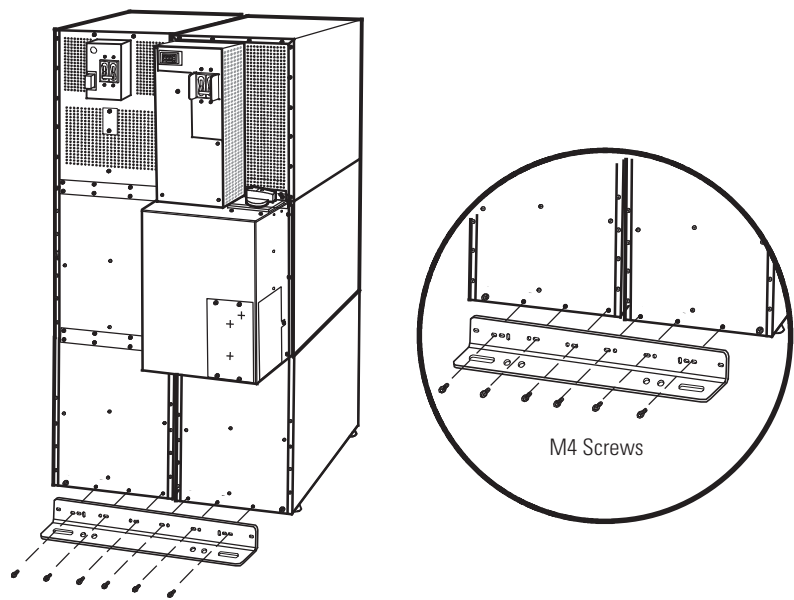

Figure 42. Stabilizing Bracket with Two Cabinets
- For two cabinets, see Figure 42.